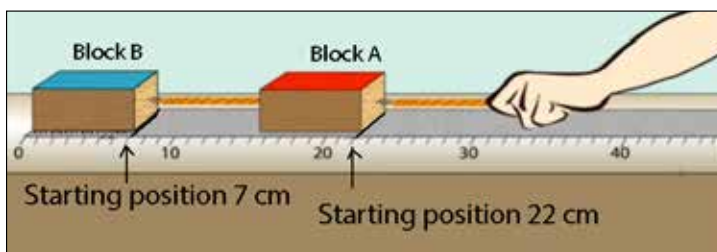

Figure 8: Two-block Earthquake Machine.
6. **Add another block and rubber band:** What will happen when we connect a second block of wood to the first with another rubber band? (Figure 8)